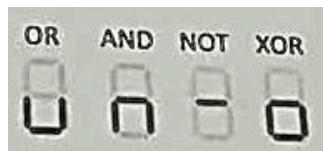

Figure 1: 7-Segment Logic Operation Display
2. Write the program to construct the "Bit logical operation" which includes Complement, And, Or, and Exclusive-Or operation. The program will receive 2 Bit inputs from switch 0 and 1 and show their status in LEDs 0 and 1 (Turn On = 1, Turn Off = 0), respectively. Switch 2 and 3 are used to define the logic operation as described in Table 1 and will be displayed in 7-segment as shown in Figure 1. Finally, the result of operation is displayed in LED 3.